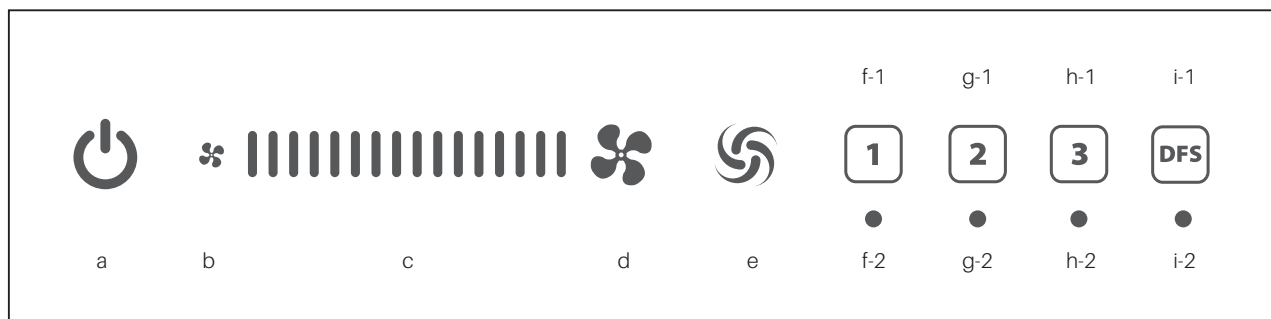

FIG 2
- a. Touch the small fan symbol (button b in Fig 2) to decrease fan speed by 2 increments.
- b. Touch the large fan symbol (button d in Fig 2) to increase fan speed by 2 increments.